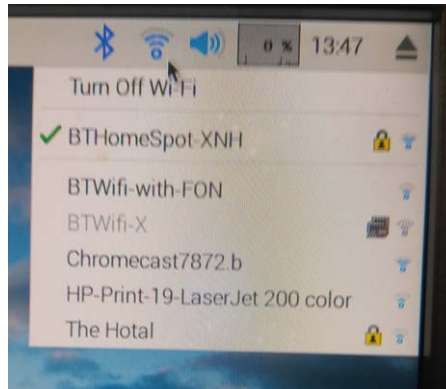

Figure 2.4 Connected to the Wi-Fi successfully
- The WiFi icon should become a typical Wi-Fi image. If you click on the icon now you should see a green tick next to the selected router as shown in Figure 2.4.